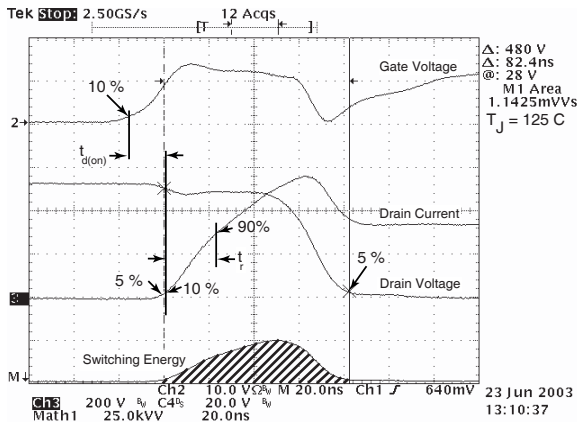

Figure 18, Turn-on Switching Waveforms and Definitions
- ① Repetitive Rating: Pulse width limited by maximum junction temperature
- ② Pulse Test: Pulse width < 380  $\mu s$ , Duty Cycle < 2%
- ③ See MIL-STD-750 Method 3471
- ④ Starting  $T_j = +25^\circ C, L = 115.92mH, R_G = 25\Omega, \text{Peak } I_L = 3.4A$
- ⑤  $I_S = -34A, di/dt = 100A/\mu s, V_R = 480V, T_j = 125^\circ C$
- ⑥  $E_{on}$  includes diode reverse recovery. See figures 18, 20.
- ⑦ Repetitive avalanche causes additional power losses that can be calculated as  $P_{AV} = E_{AR} \cdot f$